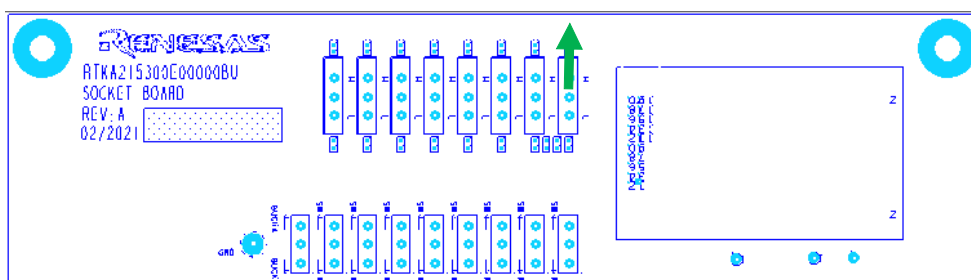

Figure 6. CEN Switch
1. Switch CEN on (see green arrow in Figure 6).